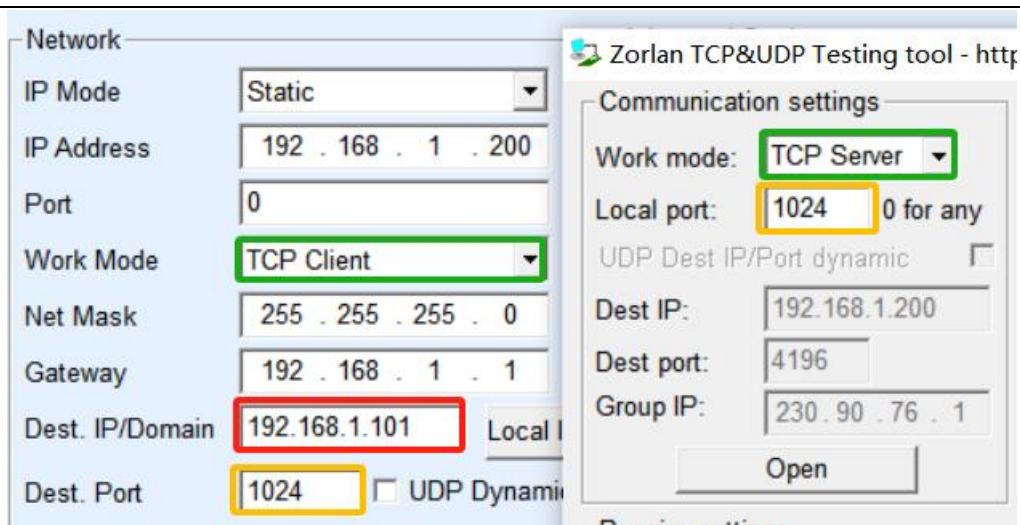
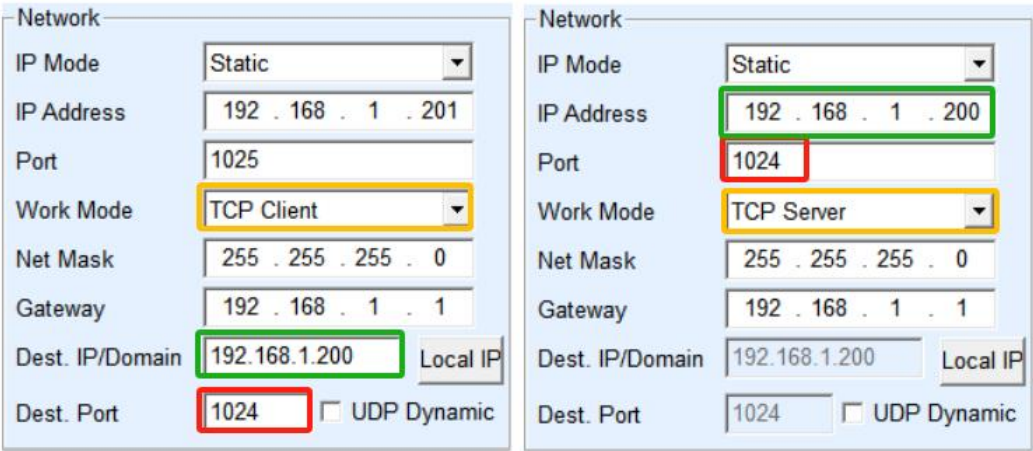

Figure 20 Serial server as client
Figure 26 Configuration of TCP device pairing parameters
When the serial server is the client, there must be three relationships, as shown in Figure 20. (1) Working mode: The working mode of the serial port server is the server mode of the network tool corresponding to the client. (2)IP address: The destination IP address of the serial port server must be the IP address of the computer where the network tool is located. (3) Port: The destination port of the serial port server must be the local port of the network tool. After this setting, the serial port server can automatically connect to the network tool and send and receive data after the connection is established.
Click on ZLVircom's device management to find these two devices, as shown in Figure 26. Then click "Device Edit" to configure the device. Device pairs can be classified into TCP pairs and UDP pairs. In TCP interconnection mode, the parameters of the two devices are shown in Figure 20. The parameters shown by the arrows must correspond to each other, just as they correspond to the PC connection. After the TCP connection is successful, you can return to the Device Management dialog box to check the connection status, as shown in Figure 26. If the status of both devices is Connected, the TCP link between the two devices has been established.